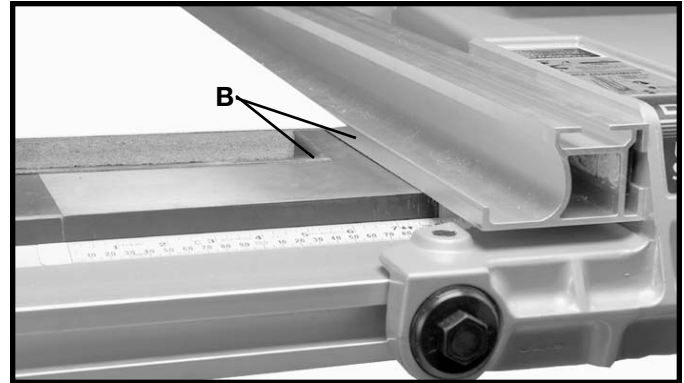

Fig. 81
When ripping material with a veneer facing and the material is not thick enough for the veneer to extend over the lip of the fence or if the veneer facing (B) is on both sides of the material, as shown in Fig. 81, the fence can be positioned slightly above the surface of the table. The veneer can be placed between the fence and the table or the veneer can straddle the fence with the material solidly against the fence.